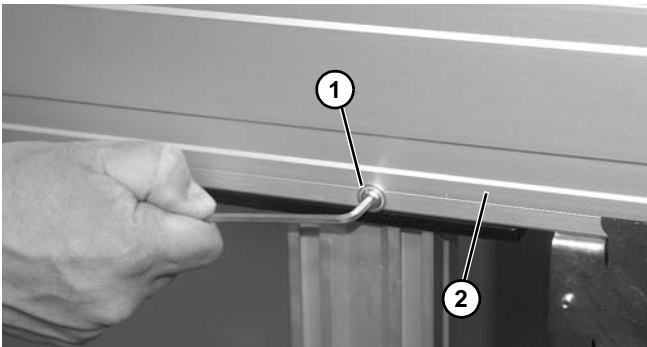

Figure 7
1. Remove screws (**Figure 7, item 1**) holding side cover (**Figure 7, item 2**) onto conveyor frame.